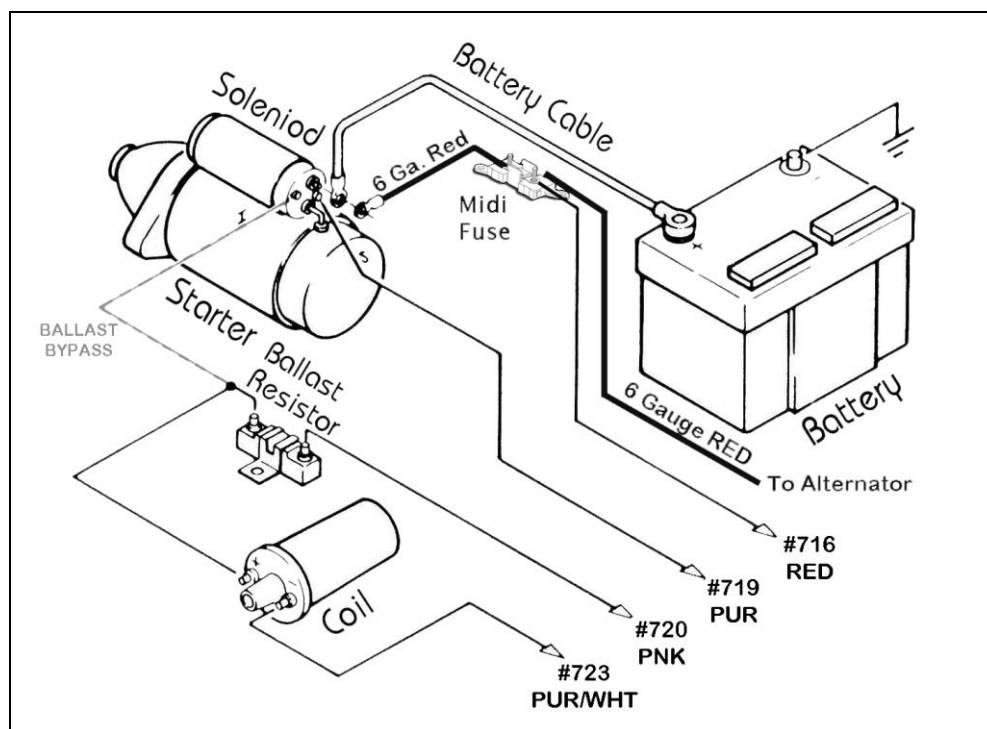

Figure 8.5 Delco Ignition (Start/Run) System
Note: Your Alternator may not appear exactly as represented in Figure 8.5. The circuits are wired the same way, though.
- A.** Connect the provided 6 gauge red wire to the Alternator Output lug (Bat). Connect ENGINE SECTION wire #714 (wht) to the Voltage Regulator (I) terminal.
- C.** Connect a 14-gauge wire from the Voltage Regulator S terminal to the S terminal of Alternator. Connect a 14-gauge wire from the Voltage Regulator F terminal to the Alternator Field (F) terminal.
- E.** An alternate (and less-used) method is to omit the Alternator Stator (S) wire, install a 14-gauge jumper across Voltage Regulator terminals A and S, and connect wire #714 to either the A or S terminal on the Voltage Regulator. The FIELD wire and the output wire from the alternator are connected as above. The Voltage Regulator Ignition (I) terminal is not connected and wire #795 (red) will not be used. Install ground wires as in **Section 8.2.1, Step D**. This alternate configuration is illustrated in dashed lines in **Figure 8.5**.
8.2.4 Delco Ignition (Start/Run) System. See Figure 8.5.